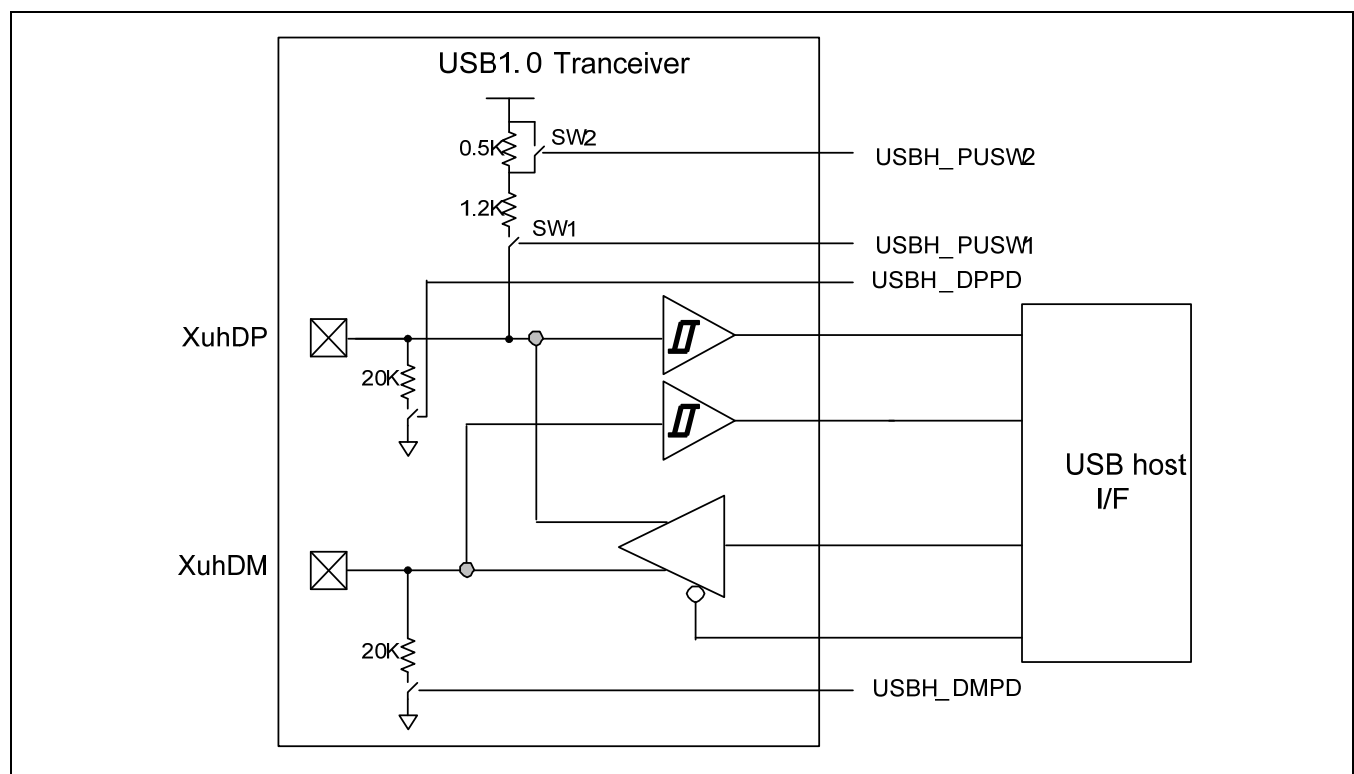

Figure 10-2. USB transceiver block diagram
- 1. Pull-up resistance is 1.2kohm. Refer to figure 10-2.
- 2. Pull-up resistance is 0.5kohm. Refer to figure 10-2.
- 3. Pull-down resistance is 20kohm. Refer to figure 10-2.